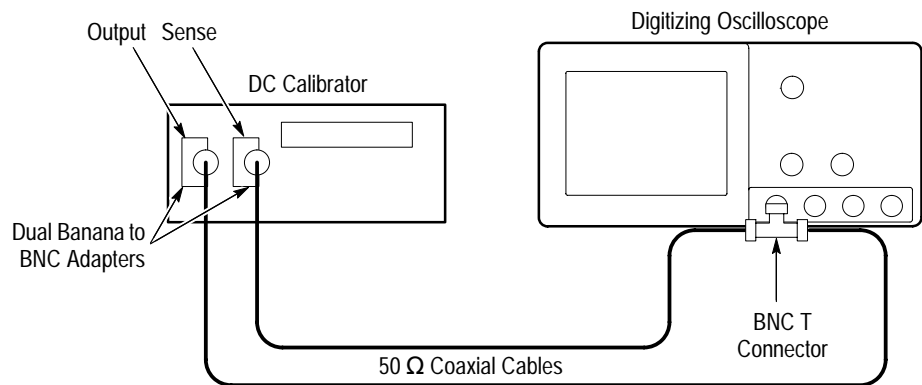

Figure 1–4: Initial Test Hookup
- Connect the output of a DC calibration generator through a dual-banana connector followed by a 50 Ω precision coaxial cable to one side of a BNC T connector (see Figure 1–4).